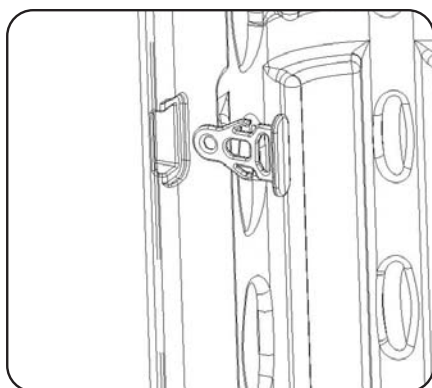

Figure 34
- 2) With the door open, place the hasp body (part #44030A) through the hole provided in the mating door panel. See figure 34.